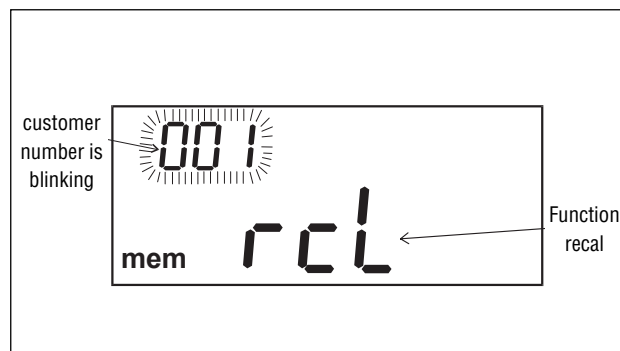

Fig. 9.45
- Press key **RCL** to select **UUT Number** (see Fig. 9.45).